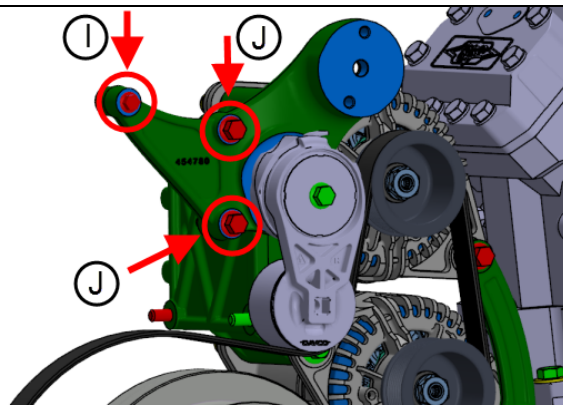

FIGURE 27
37. Snug bolts **I** & **J** indicated with arrows on FIGURE 27.